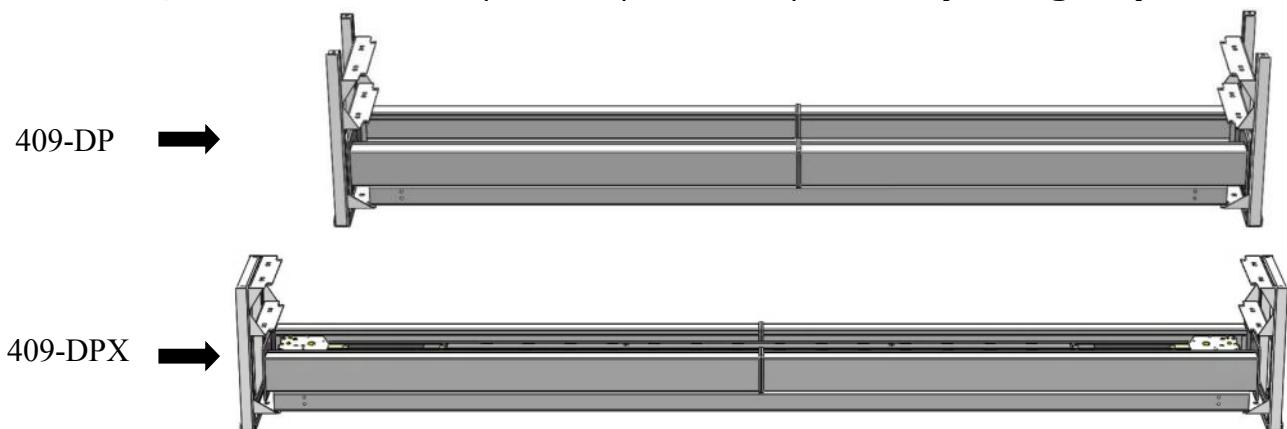

Fig. 11
4. Take out the parts in the offside platform, loosen the middle bolts of the package bracket, take out the offside platform/power side platform. (**See Fig. 11**)